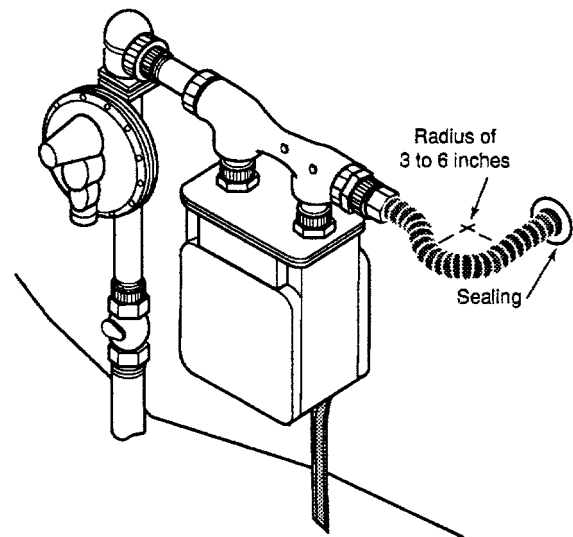

Figure 4-9
2. Meters which are independently supported with a bracket can be directly connected outdoors with **TracPipe**. If practical, direct connections shall include a 3 to 6 inch additional length of tubing to accommodate differential settling and meter movement. No mechanical protection of the tubing is required for outdoor connections. **PRIOR TO INSTALLING *TracPipe* DIRECTLY TO A METER, ENSURE THAT THE LOCAL UTILITY ALLOWS THIS PRACTICE** as some utilities have regulations specifying meter attachments. Any exposed sections of stainless steel piping must be wrapped with a silicone self-bonding tape. This is especially important with masonry construction. (Figure 4-9) A PVC Sleeve is recommended for **TracPipe** penetration of both masonry and wood frame construction.